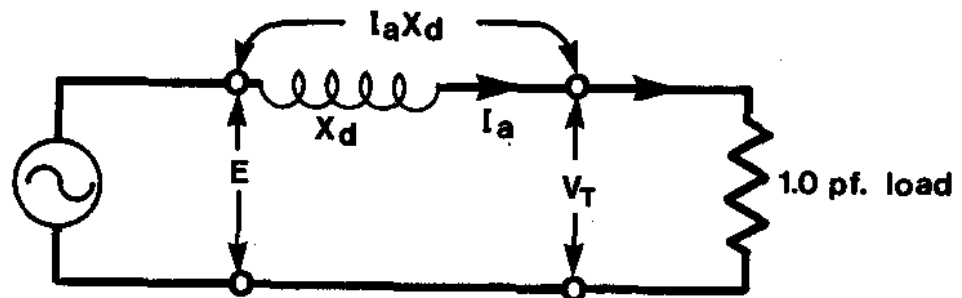
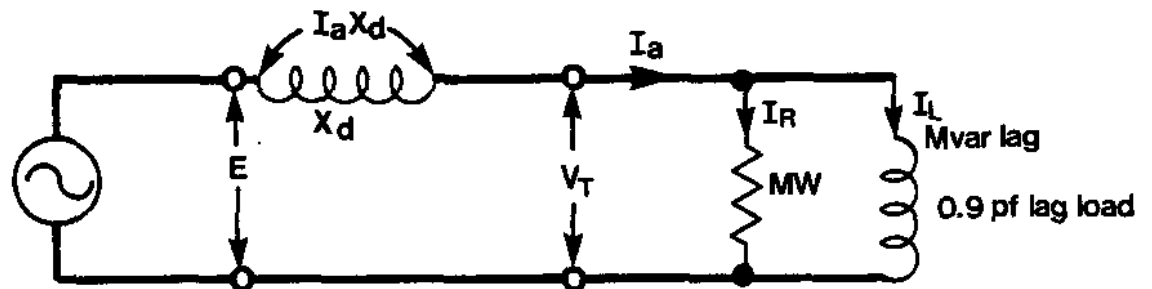
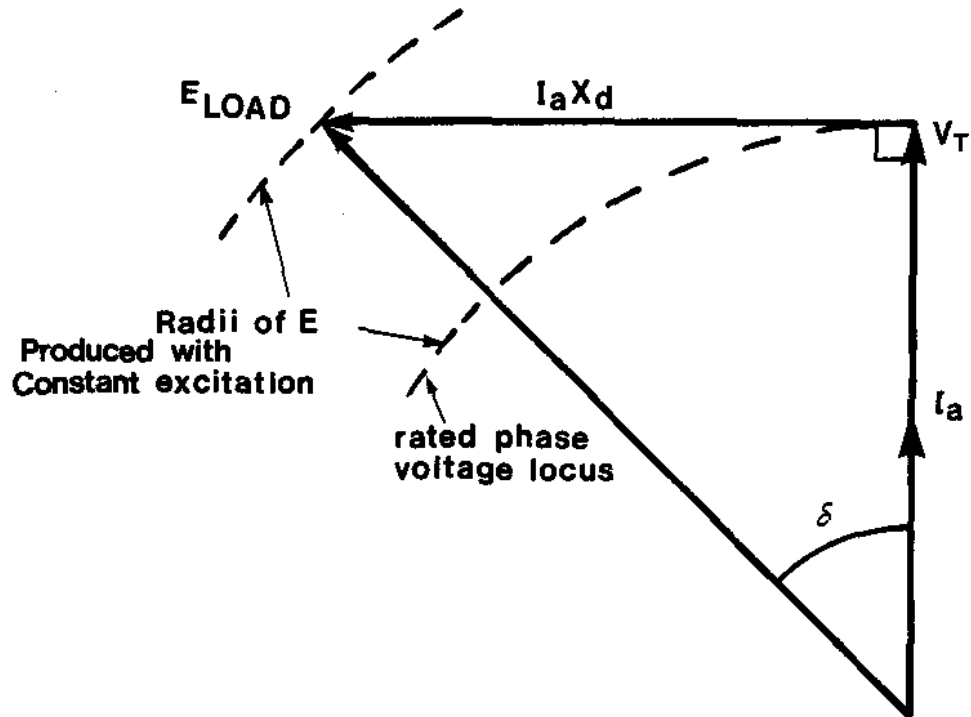

Figure 4(b): Equivalent circuit of a generator supplying a 1.0 pf Load.
Figure 5(b): Equivalent circuit of a generator supplying a 0.9 pf lag load.
Figure 7: Vector diagram showing a generator on full load 1.0 pf.
A vector representation of Figure 4(b) is shown in Appendix 1 (see Figure 7).
A vector representation of Figure 5(b) is shown in Appendix 2 (see Figure 7).
- As the generator is being loaded from 0 load to same MW load as Figure 7 but with pf = 0.9 lag, to keep the terminal voltage V_T constant, the generated voltage E has to be increased. This is done by increasing the rotor current. Note E load 0.9 pf lag is greater than E load at 1.0 pf.
- As the generator is being loaded from 0 load to same MW load as Figure 7 but pf = 0.9 lead, to keep the terminal voltage V_T constant, the generated voltage E has to be **decreased** relative to the 0.9 pf lag and 1.0 pf conditions. This is done by reducing the rotor current. Note E load 0.9 pf lead is less than E load pf = 1.